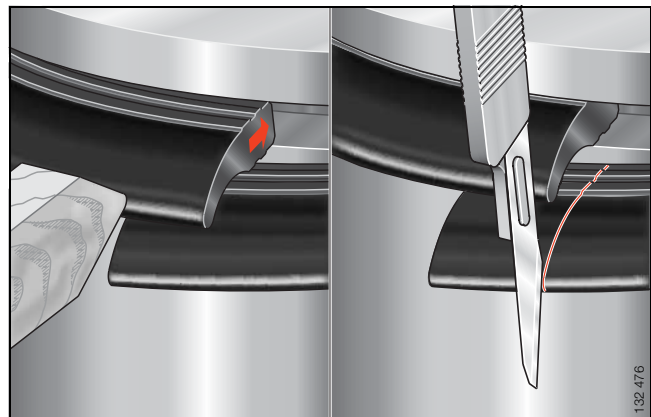

Figure 2 · Pressing in and cutting of the profile in the fitting space
- Press the seal profile carefully into the fitting space leaving an excess length of approximately 5% – e.g. with a blunt wooden wedge (Figure 2).
- Cut the profile to the exact length (Figure 2) – ensure that the joint faces are even.